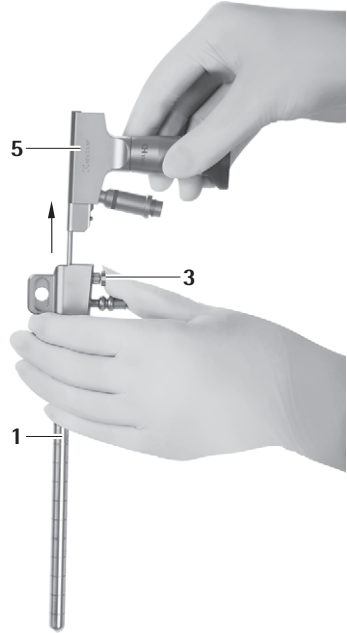

Fig. 8
► Press the release button **3** and remove the endoscope **5** from the MINOP InVent trocar **1**, see Fig. 8.